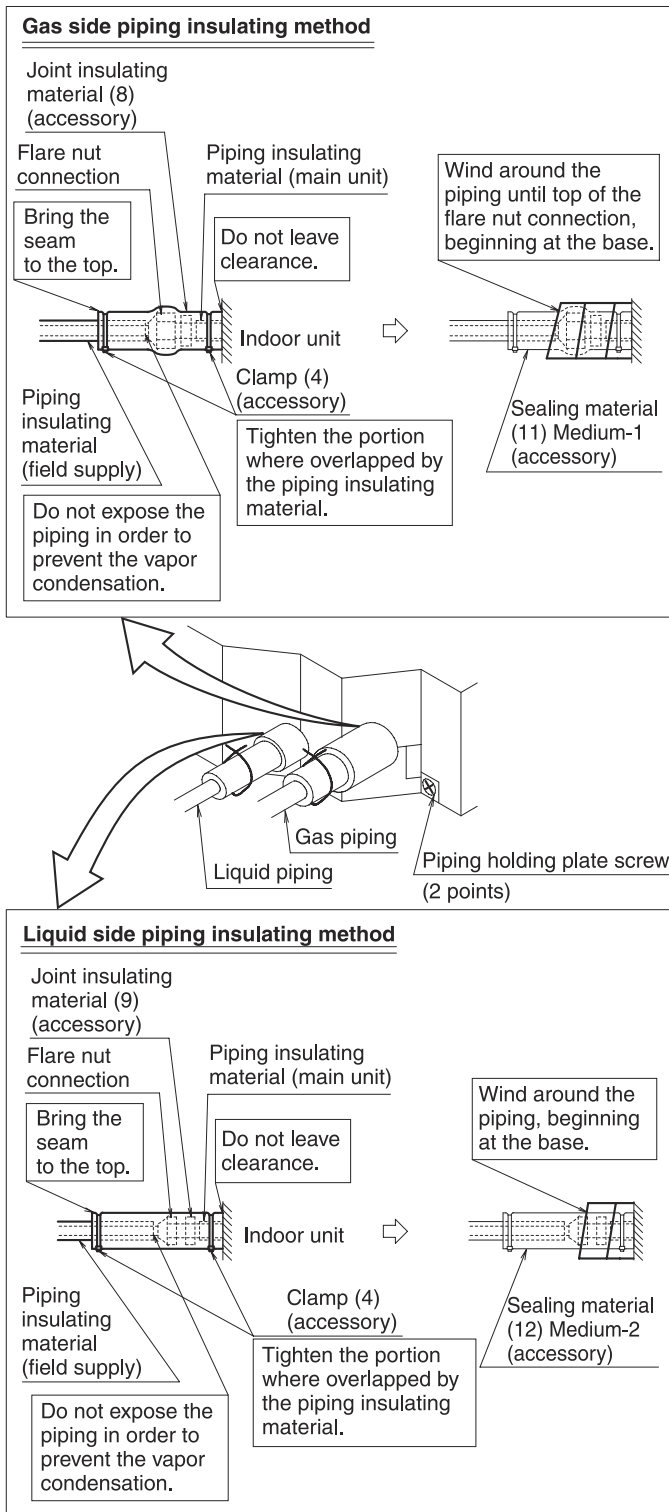

Fig. 12
- After leak test, referring to Fig. 12, insulate both the gas and liquid piping connection with the attached joint insulating material (8) and (9) to prevent the pipings from getting exposed.
After all the brazing works are finished, carry out flare connection with the indoor unit. (Refer to Fig. 12)